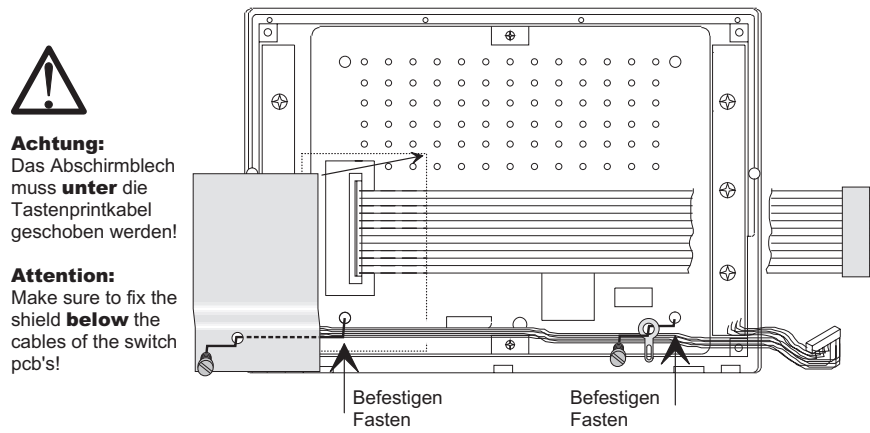

Fig. 8-10: Fastening the shield and the tab
14. Carefully move the shield below the cables of the switch pcb's into the position marked in fig 8-10, the data link cable and its connector must be underneath. Then fasten the shield with a screw. Fasten the tab above the cables of the switch pcb's with a screw. Avoid damage of the cables!